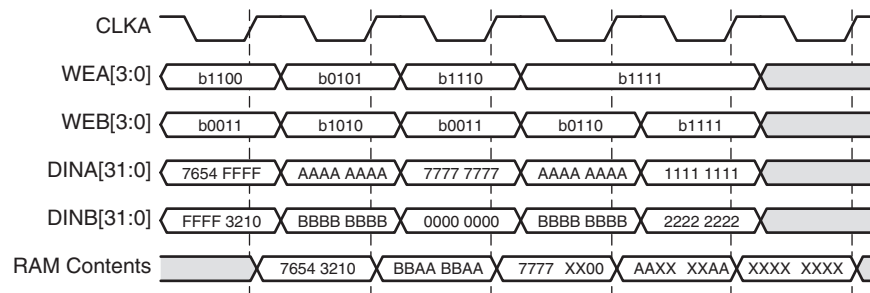

Figure 3-15: Write-Write Collision Example
- **Using Byte-Writes:** When using byte-writes, memory contents are not corrupted when separate bytes are written in the same data word. RAM contents are corrupted only when both ports attempt to Write the same byte. Figure 3-15 illustrates this case. Assume  $addr_a = addr_b = 0$ .